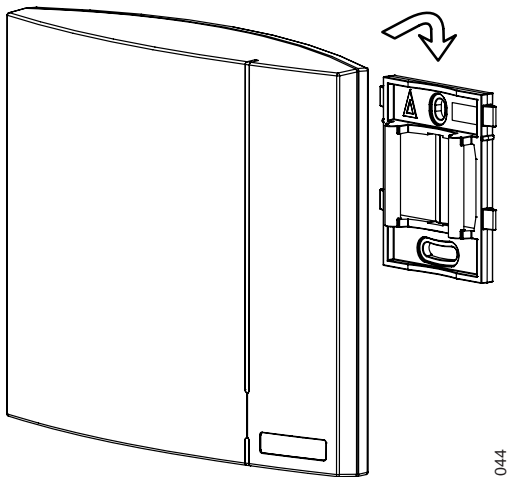

Figure 17. Mounting the IPBS
- 1 Hold the IPBS flat against the mounting bracket and move it downwards until it clicks, see figure 17.